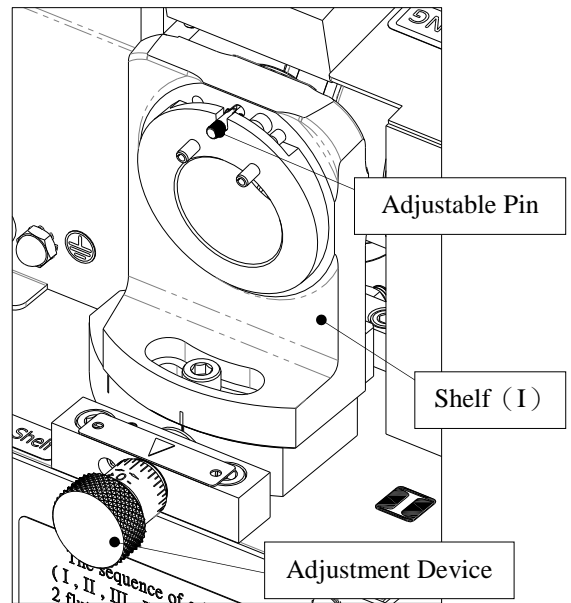
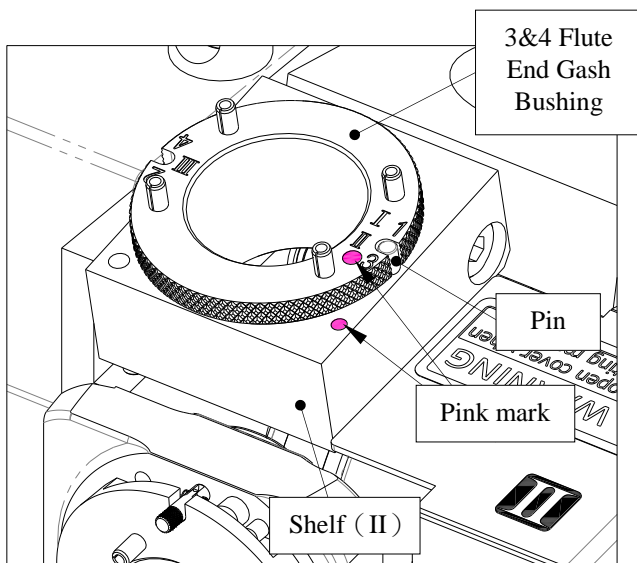

Fig. 18-1
Fig. 18-2
1. Shelf (I) (Fig. 18-1)
- ① Move the adjustable pin on Shelf (I) from the top to bottom.
- ② Adjust the Cutting face adjustment device to “0”, after finishing the whole sharpening procedure, then adjust this device according to your needs. (See page 11 “XIII. End Mill—The use of the Cutting Face Adjustment Device”)
2. Shelf (II) (Fig. 18-2)